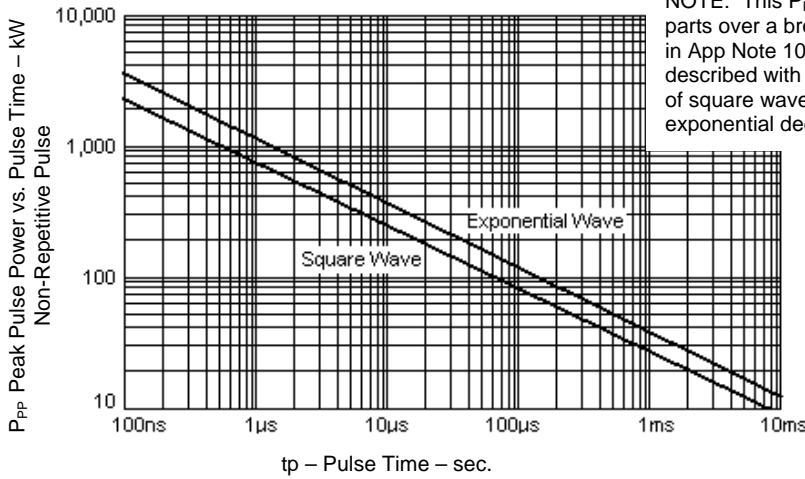

FIGURE 1
NOTE 1: See MicroNote 108 for lower Clamping Voltage performance at reduced I_P values relative to I_{PP} and P_{PP} ratings and Figure 1.
NOTE 2: Also equivalent to 90 and 87 Amps (40 kW) respectively at a longer impulse of 10/1000 μs (see Figure 1) with clamping voltages shown. Also see other equivalent peak pulse power performance levels for aircraft waveforms on page 3 for this device.
NOTE: The 1MHz damped oscillatory waveform (3) has an effective pulse width of 4 μ s. Equivalent peak pulse power for the RT130KP275CA and RT130KP295CA at each of the pulse widths represented in RTCA/DO-160E for wave forms 3, 4 and 5A (above) have been determined referencing Figure 1 herein as well as Application Notes 104 and 120 (found on Microsemi's website) and are listed below.